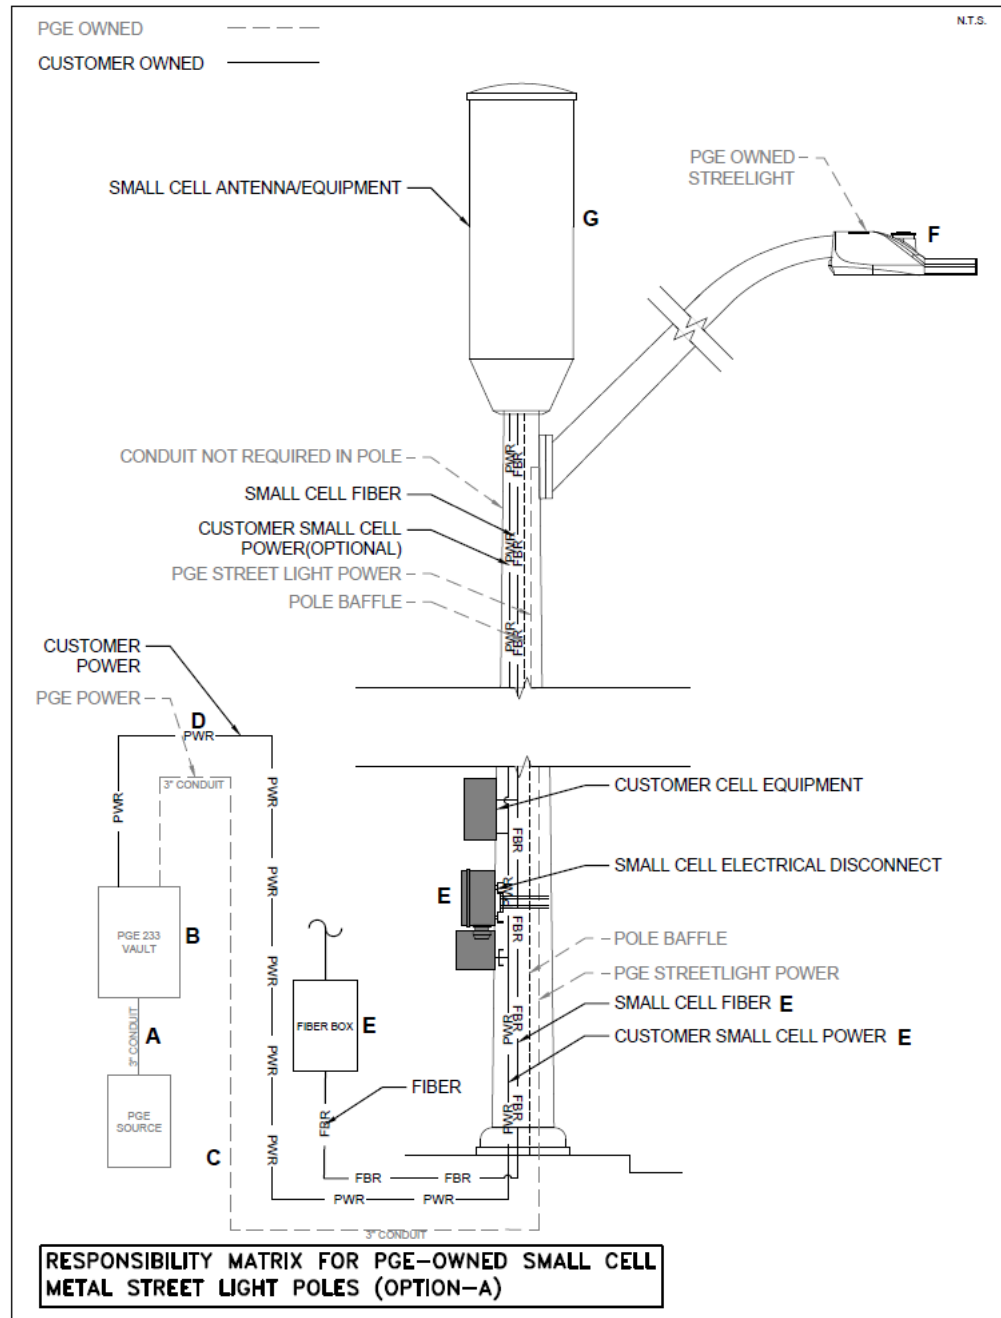
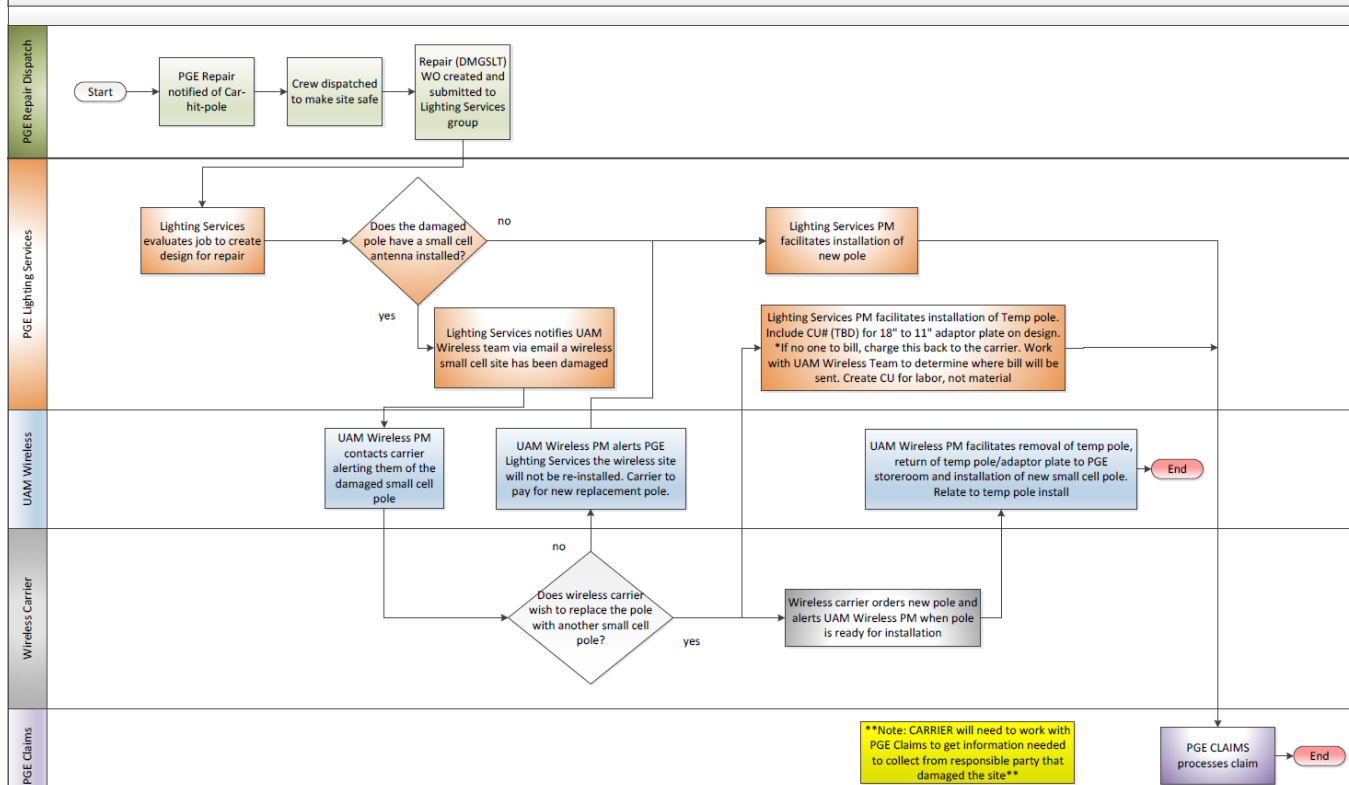

Figure 6. Responsibility Matrix for PGE-Owned Small Cell Streetlights
Figure 7. Damaged Pole Process Chart
Figure 6 and Table 1 below describes responsibility for the various points of construction, inspection, maintenance, and removal of unused facilities.
- An optional 18" to 11" Bolt-Circle Adaptor Plate may be installed. Designed for situations where a small-cell wireless pole is damaged, and there is an existing base with an 18" bolt-circle. This adaptor plate facilitates the temporary installation of a standard 11" bolt-circle PGE streetlight pole, enabling continued streetlight operation while the cell carrier arranges for a replacement pole. See Figure 6, Figure 7, and Figure 8 for images, engineered drawings, and application guidelines.